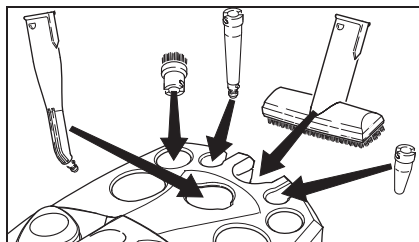

Figure 1
- Place the manual nozzle (E1) into the appropriate accessory compartment (see Fig. 1).